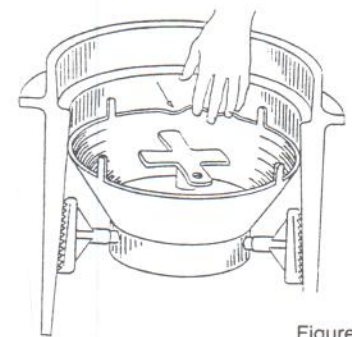

Figure 2
**BE SURE TO 'PRESS' OUT ANY WRINKLES WHICH MIGHT OCCUR** (See figure 2).